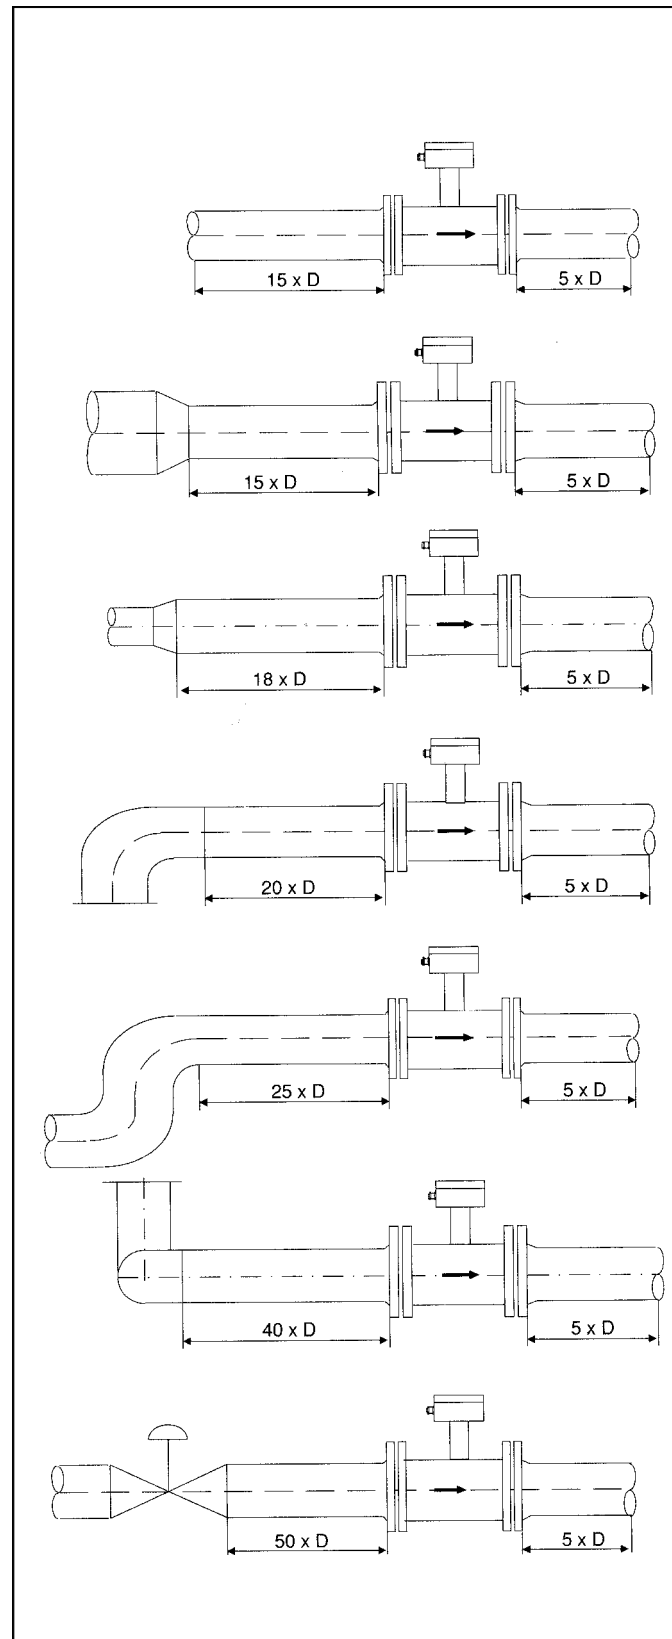

Fig. II-4 Recommended In- and Outlet Sections
- the recommended lengths of the in- and outlet straight sections are maintained (Fig. II-4);